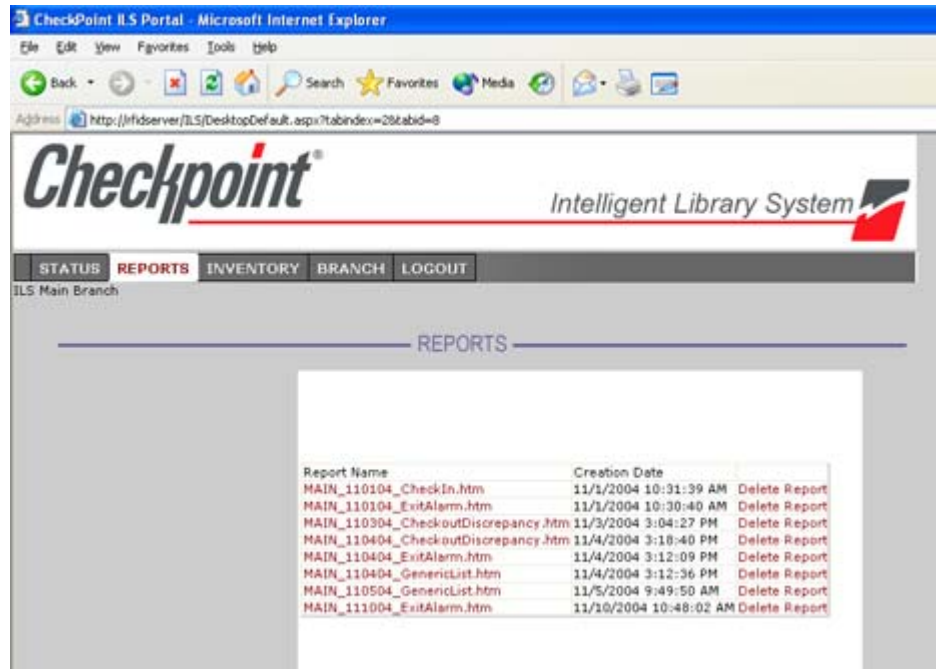

Figure 5.9 View Reports
- 2 To view the report, click the desired report name (Figure 5.9). When viewing a report, you can return to the list of reports by clicking the **Reports** tab.